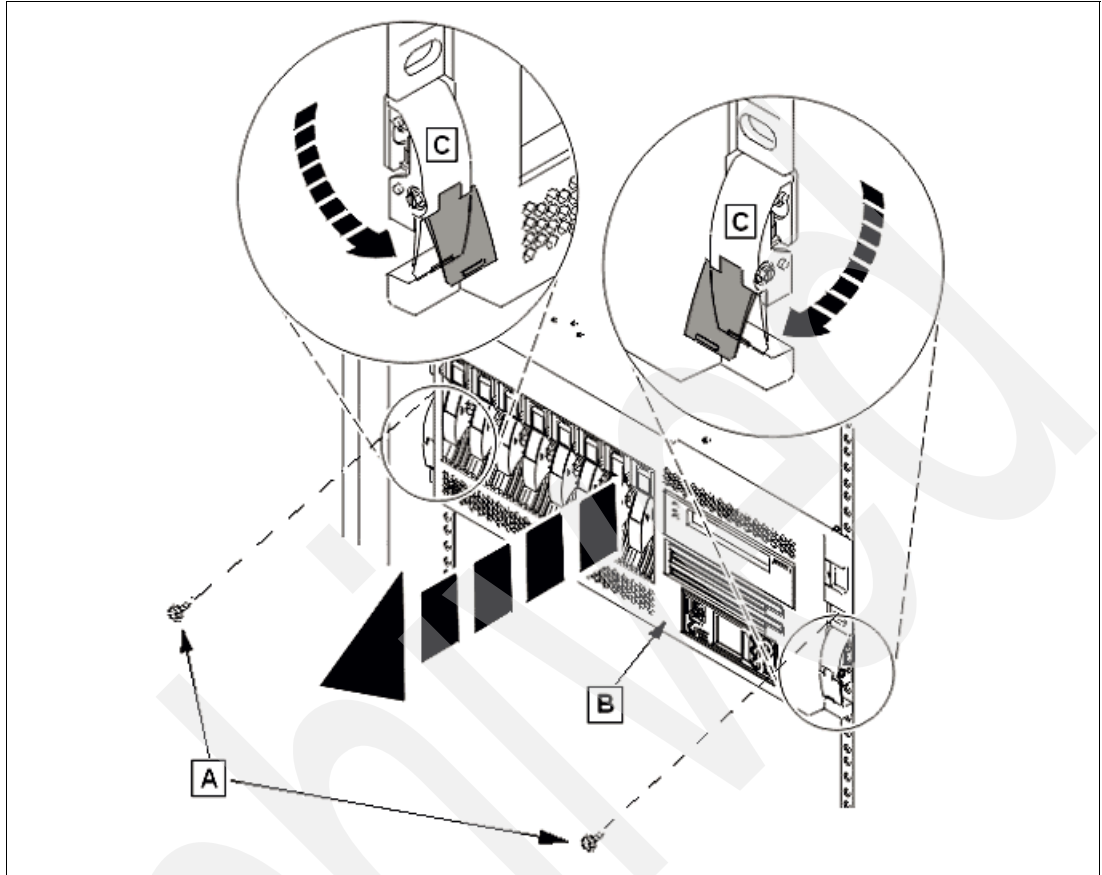

Figure 2-39 Pull the Power 520 to the service position
2. Remove the two thumbscrews (A) that secure the system or expansion unit (B) to the rack, as shown in Figure 2-39.